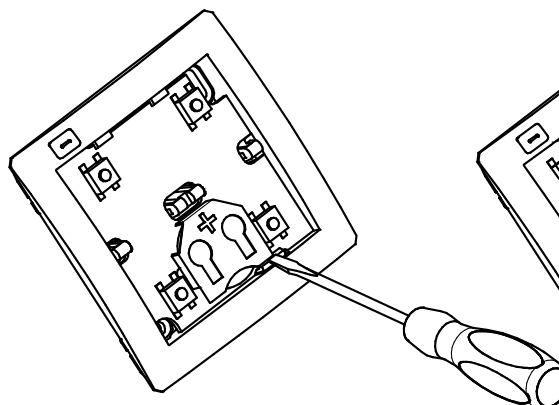

fig. 2
2. Use a screwdriver to push up the electronics board while releasing the latch of the battery to allow its removal (fig. 2).